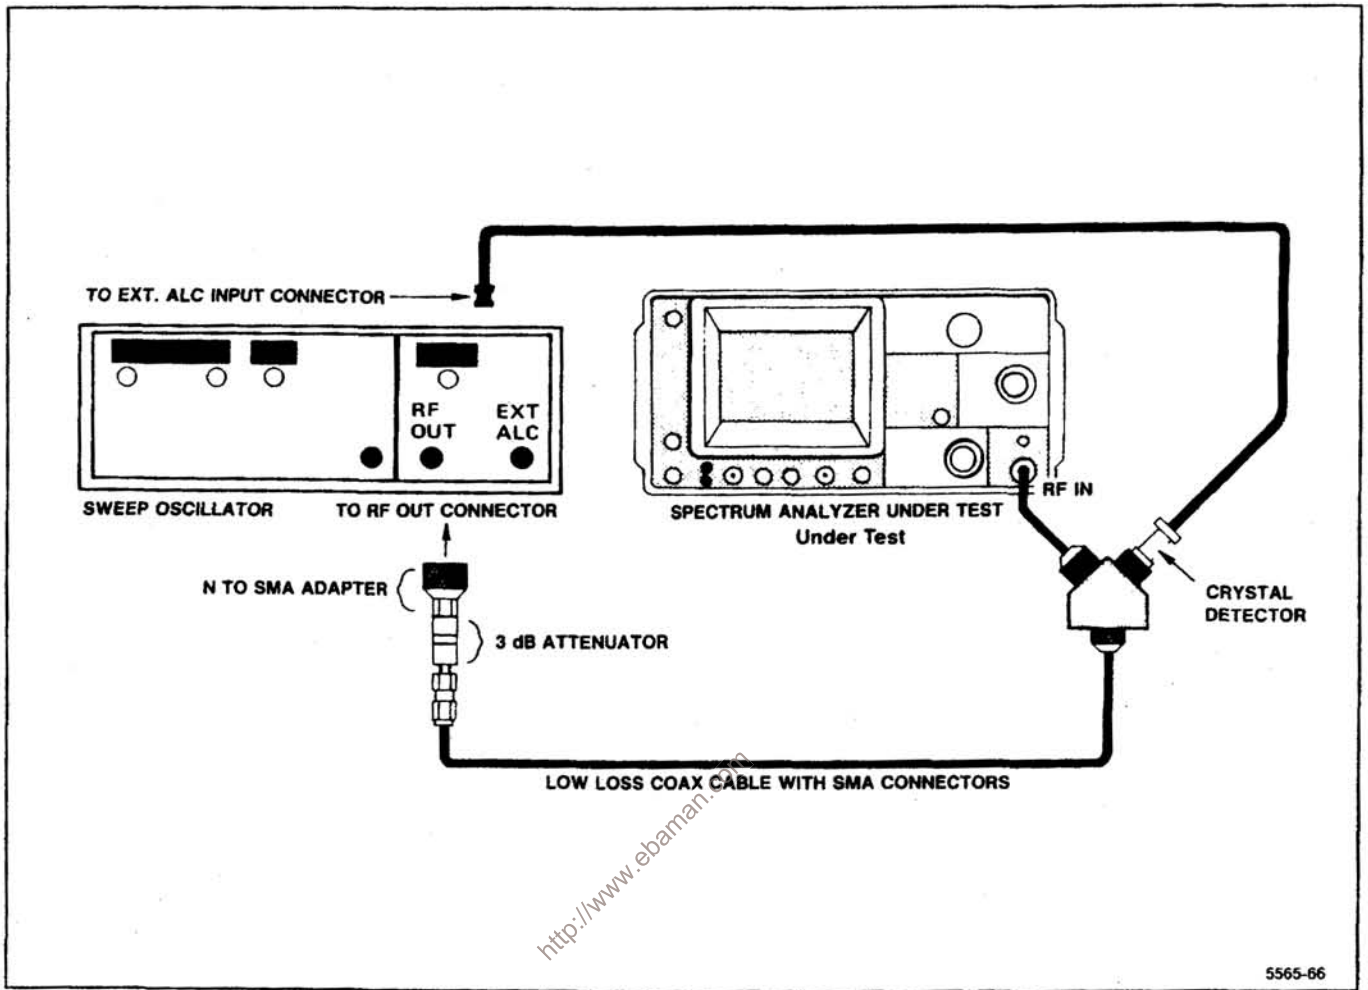

Figure 4-11. Test equipment setup for measuring 0.01 GHz to 21 GHz frequency response.
(3) Set the CAL AMPL adjustment for 5 divisions on the Spectrum Analyzer display. This is the 100 MHz reference. Activate SAVE A to save the reference.
(4) Connect the test equipment as shown in Figure 4-11.
(5) Set the sweep oscillator controls for a cw output that matches the SAVE A display (output frequency of 100 MHz and an output amplitude of approximately -20 dBm).
(6) Deactivate SAVE A. Reset the CENTER FREQUENCY to 500 MHz, and SPAN/DIV to 100 MHz, and activate MAX HOLD.
(7) Reset the sweep oscillator controls for a sweep output from 0.01 GHz—1 GHz. Enable single sweep on the sweep oscillator.
(8) Check that amplitude deviation from the 100 MHz reference does not exceed ± 2.5 dB.
(9) Make a note of the highest and lowest peaks for later comparison.
(10) Deactivate MAX HOLD, and repeat parts 6 through 10 for a CENTER FREQUENCY of 1.5 GHz (1 GHz to 1.8 GHz).
(11) Calculate the halfway point between the highest and the lowest peak from the peak data noted in parts 9 and 10.
(12) Check that swept frequency flatness is within ± 1.5 dB in Band 1.
(13) Switch the Spectrum Analyzer to Band 2 (<Blue-SHIFT> BAND Δ), CENTER FREQUENCY to 2.7 GHz, and SPAN/DIV to 200 MHz.
(14) Reset the sweep oscillator controls for a sweep output from 1.7 GHz—3.7 GHz. Enable single sweep on the sweep oscillator.